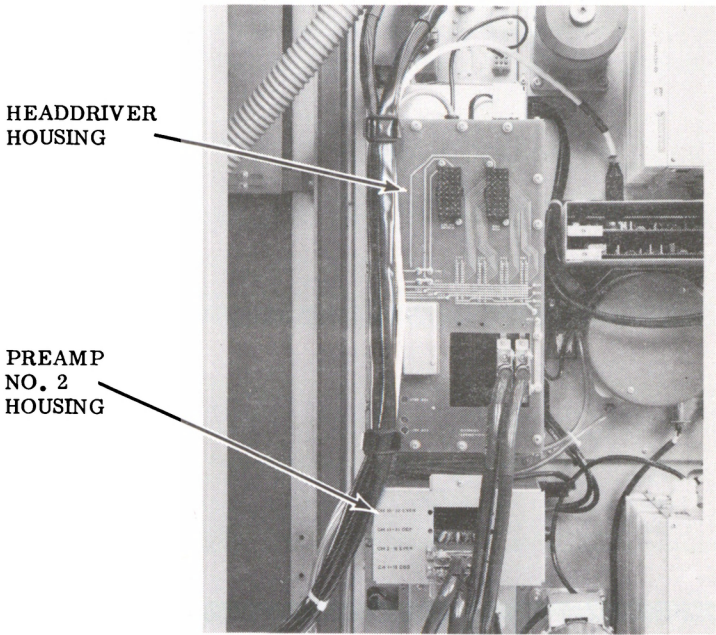

Figure 1-11. Headdriver and Preamplifier No. 2 Housings
- The master bias oscillator and headdrivers which mount into the headdriver housing. The headdriver housing is mounted to the rear of the tape transport baseplate. See Figures 1-11 and 1-12
- The preamplifier No. 2's which are mounted in the preamplifier No. 2 housing that is, in turn, mounted to the transport baseplate directly beneath the headdriver housing. See Figure 1-11.
Each of the headdriver pwa's contain eight channels. They slide into the headdriver housing from the front of the transport. Their adjustments and test points are front accessible. See Figures 1-11 and 1-12.
Each of the preamplifier No. 2 pwa's contains eight channels of electronics. Two preamplifier cards are required for 7 or 14-channel systems and four cards are required for a 28-channel system. There are no adjustments on the preamplifier No. 2 pwa's. See Figure 1-11.